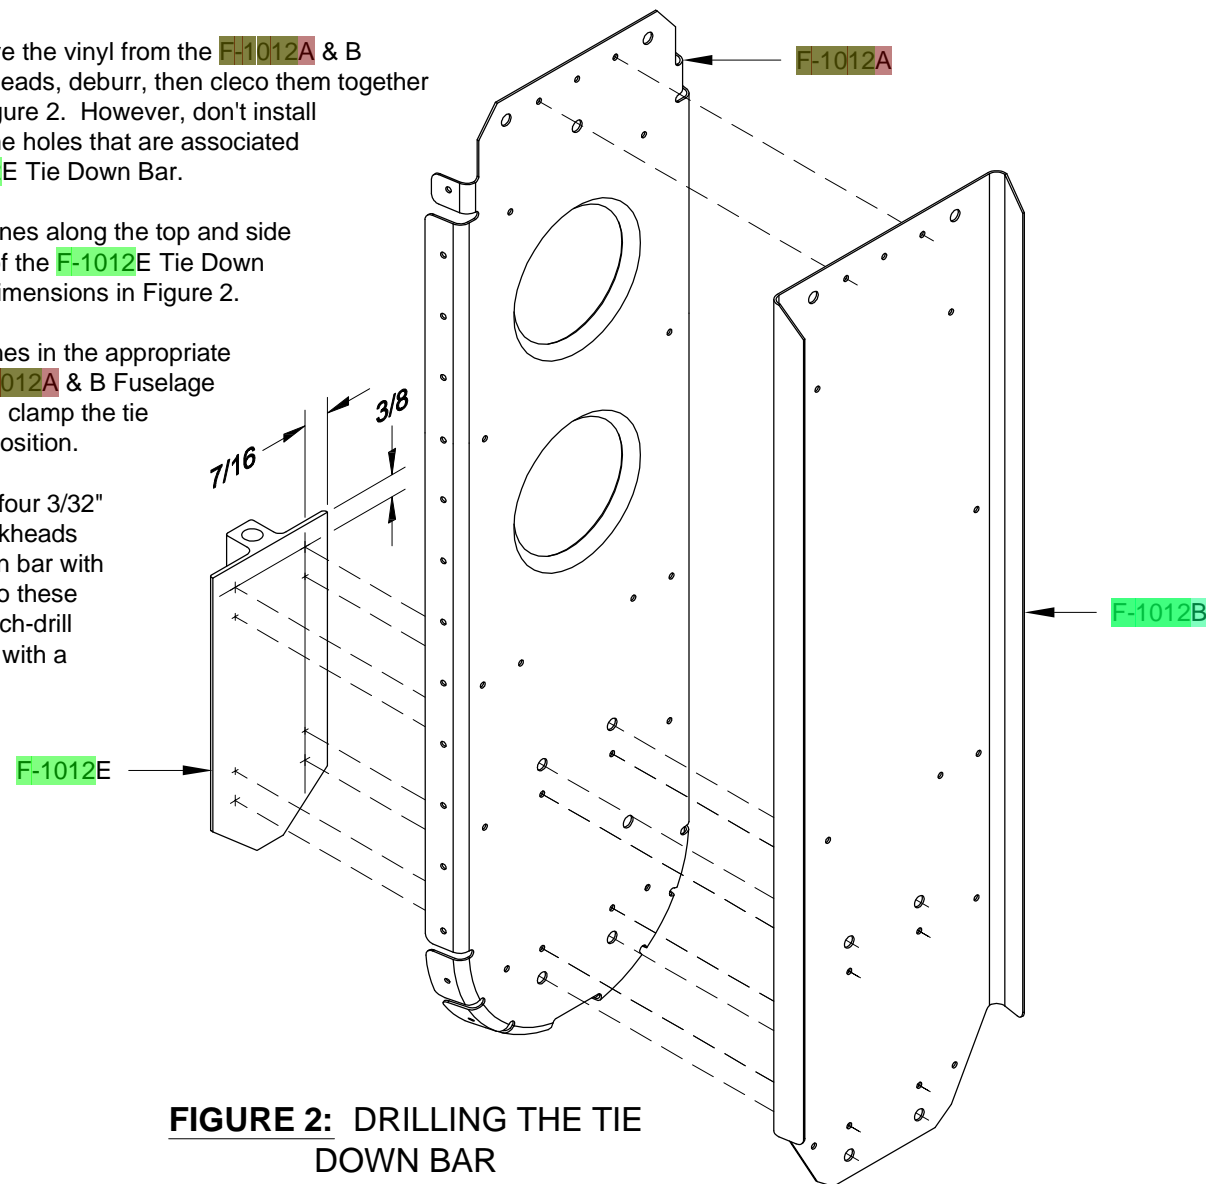

FIGURE 2: DRILLING THE TIE DOWN BAR
Step 2: Remove the vinyl from the **F-1012A** & B Fuselage Bulkheads, deburr, then cleco them together as shown in Figure 2. However, don't install any clecos in the holes that are associated with the **F-1012E** Tie Down Bar.
Step 3: Draw lines along the top and side of the aft face of the **F-1012E** Tie Down Bar using the dimensions in Figure 2.